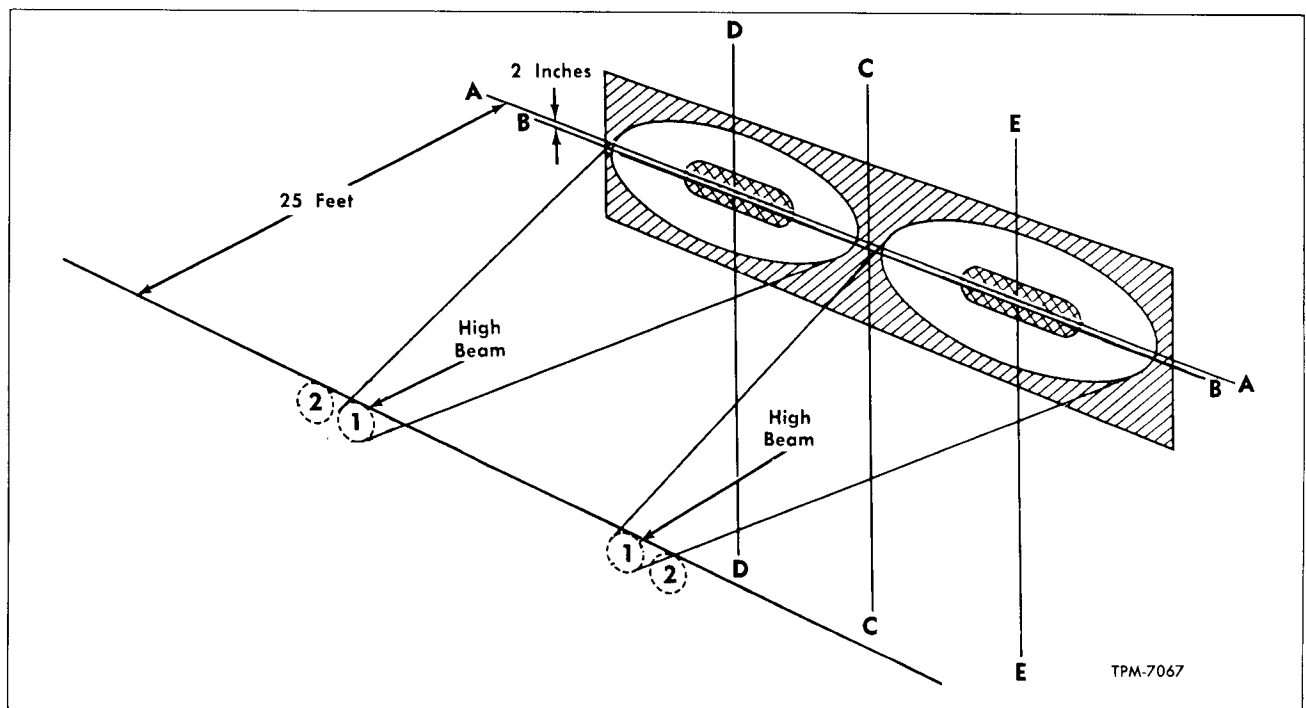
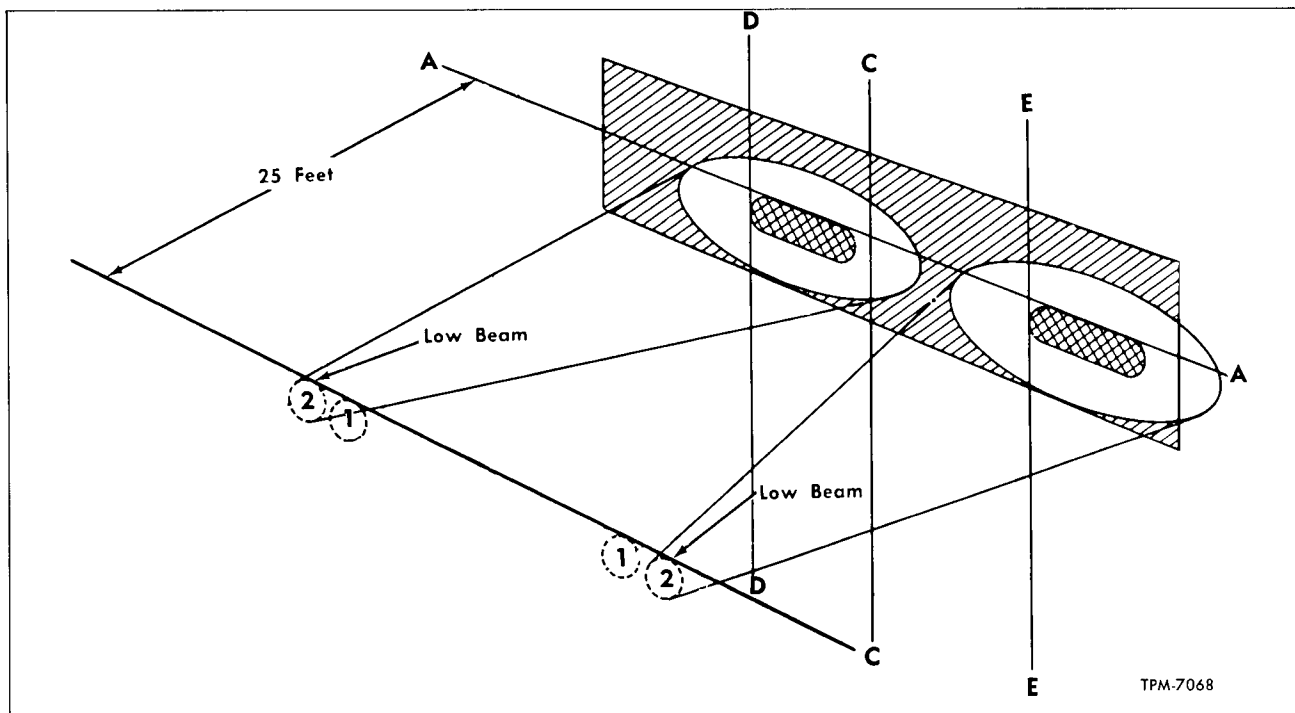

Figure 2—Inner Light (High Beam) Aiming Chart
Figure 4—Outer Light (Low Beam) Aiming Chart
Inner (High-Beam) Lights (Fig. 2)
8. Remove paper or panel from vertical surface to permit drawing aiming lines for outer lights. NOTE: Lines A-A and C-C in figure 2 are in same location for figure 4 and can be located on vertical surface in same place by taking measurements from the removed paper or panel.
Outer (Low Beam) Lights (Fig. 4)